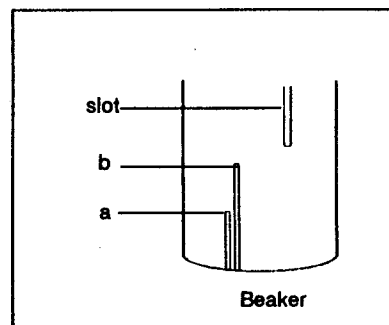

Figure 3
- a) Using 100 proof vodka (see Figure 3).
- b) Using 80 proof vodka (see Figure 3).